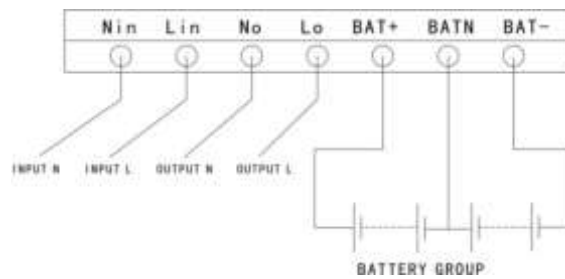

Fig. 3-3 I/O terminals connection
- 2) Remove terminals cover, see Fig. 3-3, following it to connect the cables